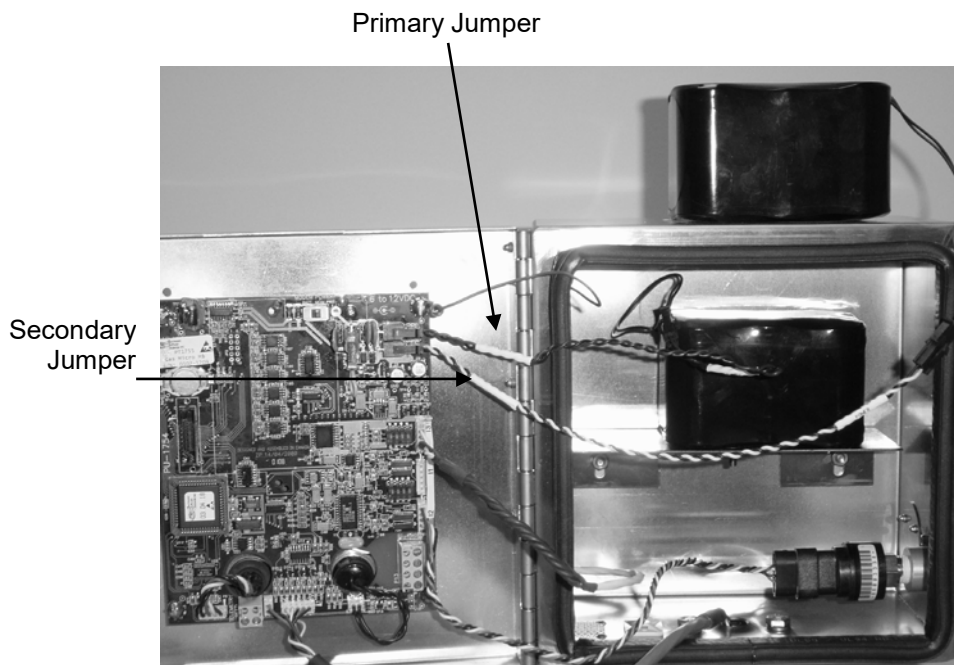

Figure 7-1 Battery connection
2. Connect replacement battery pack to secondary battery jumper (white & black) and temporarily set it on top of GAS MICRO enclosure (See Figure 7-1)